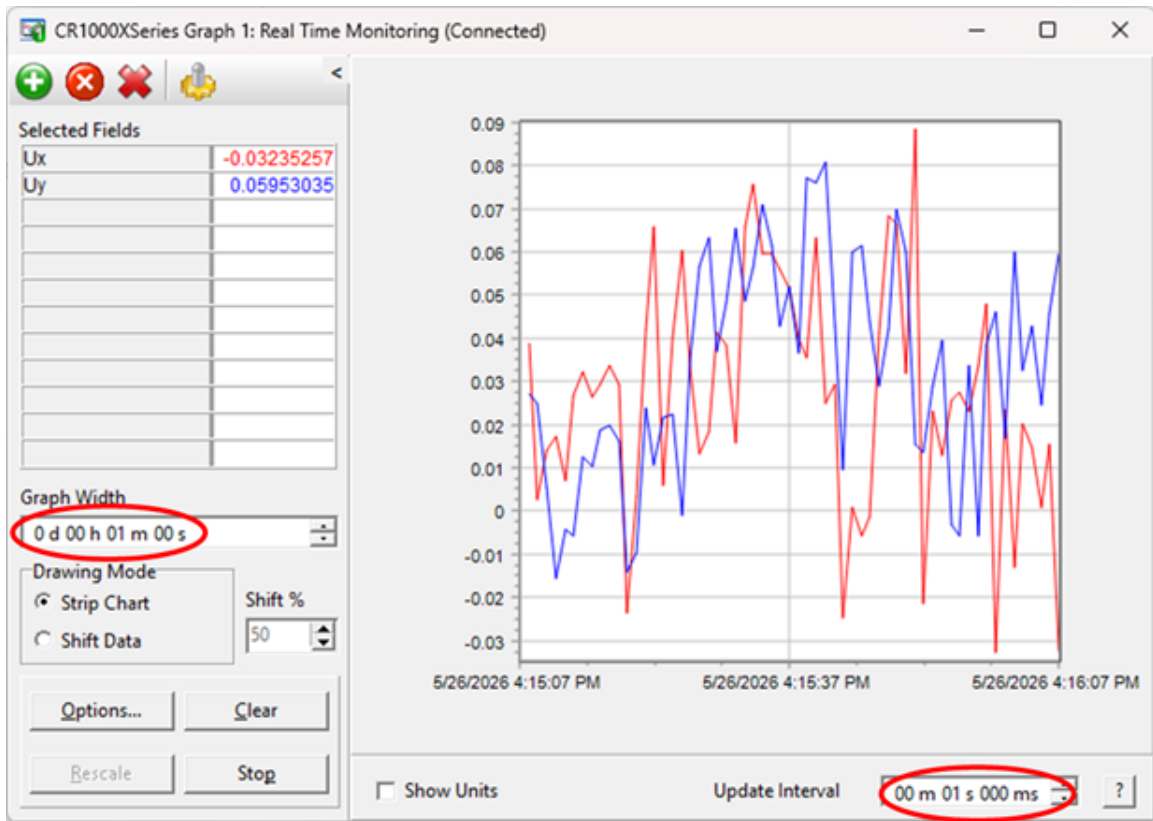

Figure 8-4. CSAT3C real-time data with 1 sec update and Ux and Uy wind components graphed
- a. On the first graph, add the  $U_x$  and  $U_y$  wind components and set the y limits from  $-0.08$  to  $0.08$  as shown in Figure 8-4 (p. 64).